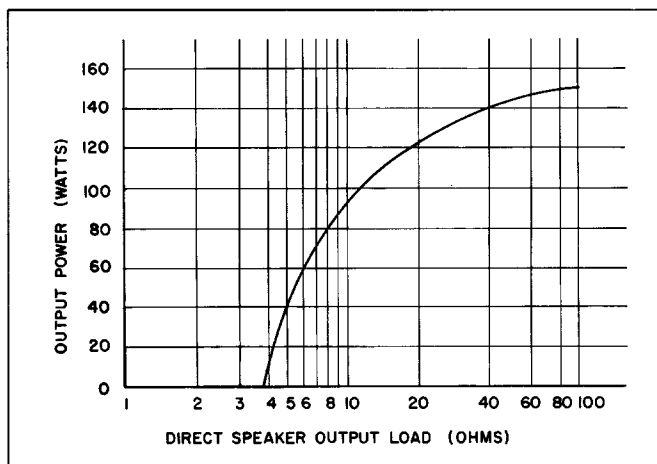

FIGURE 7. 70-VOLT OUTPUT POWER VS. DIRECT OUTPUT LOAD IMPEDANCE FROM 4 OHMS TO 100 OHMS (SR105A ONLY)
It is possible to utilize both the direct-coupled speaker output and the 70-volt output of the SR105A Amplifier simultaneously, if desired. In this case, reference should be made to Figure 7, Page 7 to determine the power available to the 70-volt output as a function of the load on the direct speaker output. As an example, assume an 8-ohm speaker load is to be connected to the direct-coupled speaker output, and the 70-volt output is also to be used. Following the 8-ohm vertical line on the graph (Figure 7, Page 7) to the point where it intersects the curve, note that the *horizontal* line also passing through this point is 80 watts. This is the power available on the 70-volt output with a simultaneous 8-ohm direct output load.
In the SR105A Amplifier, a 100% indication represents a signal level greater than 70.7 volts rms across the 70V OUTPUT Terminals (11). The OUTPUT VOLTAGE Meter (1) may be recalibrated for a 100% indication with 70.7V output. Maximum 70-volt amplifier power output is obtained with a 150-watt load (33 ohms) across the 70V OUTPUT Terminals. Similarly, maximum power output may be obtained with a combination of direct and 70-volt loads (see Figure 7, Page 7).